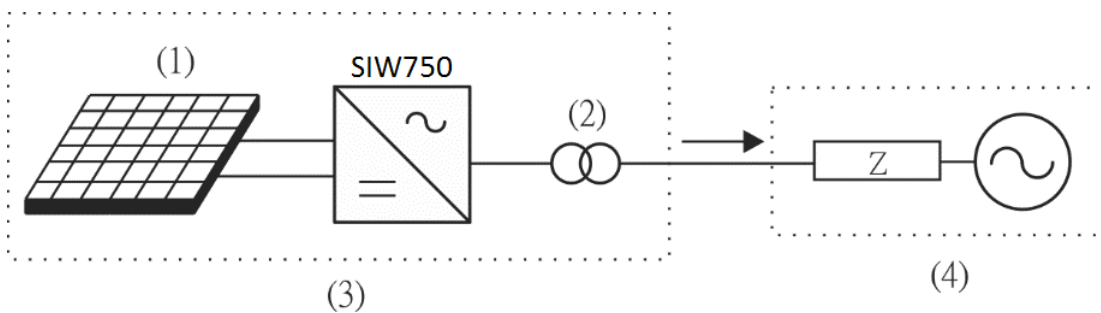

Figure 4.1: Block diagram of a PV system using the SIW750.
The SIW750 is a high-performance high power central photovoltaic (PV) DC/AC converter that allows DC energy generated by PV modules to be efficiently transferred to the AC power grid as shown in Figure 4.1.